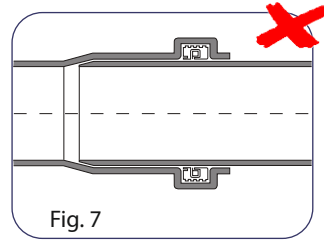

Fig. 7
e) pipe has to be fully inserted into the socket, and then should be extended back to 1 cm. This creates a gap for compensation of the pipe's thermal extension (Fig. 7, 8);